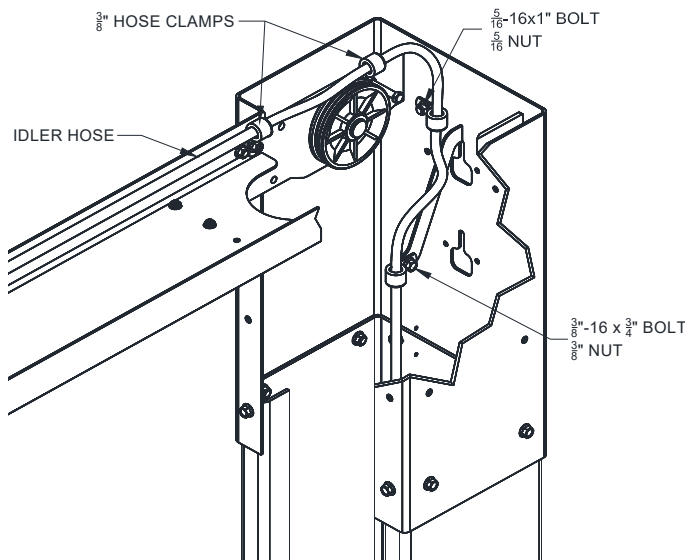
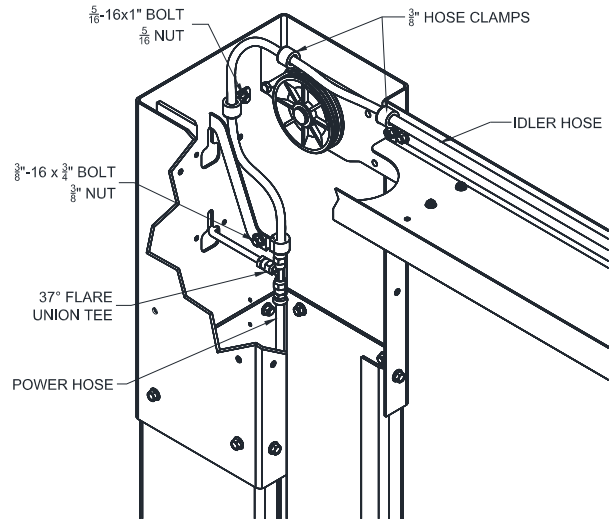
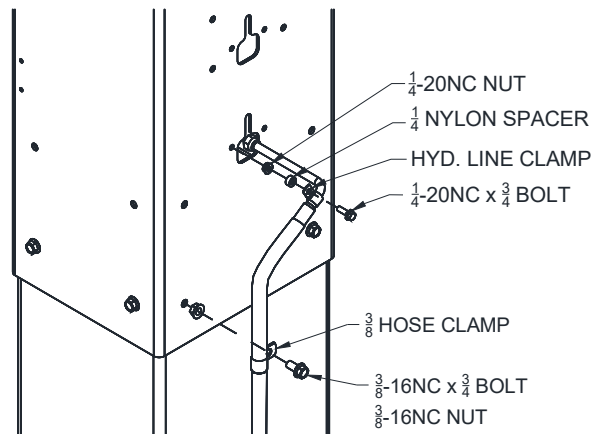

Fig. 11a – Hose Routing, Idler Side Column Ext.
Fig. 11b – Hose Routing, Power Side Column Ext.
Fig. 12 – Power Unit Hose
28) Uncoil Idler side hose and route through the Idler Side column extension as shown in **Fig. 11a**. taking care to avoid the synchronizing cables and hydraulic cylinder path. Remove slack and tighten all 3 clamps. Route hose across overhead avoiding the synchronizing cables and down through the Power Side column extension as seen in **Fig. 11b**. Do Not Tighten Clamps at this time.
29) Loosely attach power column hose and idler column hose using the tee fitting (*in hardware box*) Attach Power Unit Hose to power side column extension as seen in **Fig. 12**. Connect Power unit hose to tee from **Fig. 11b** and remove slack from power column hose. Tighten loose fittings and clamps from previous step. Serpentine any extra hose length in overhead.